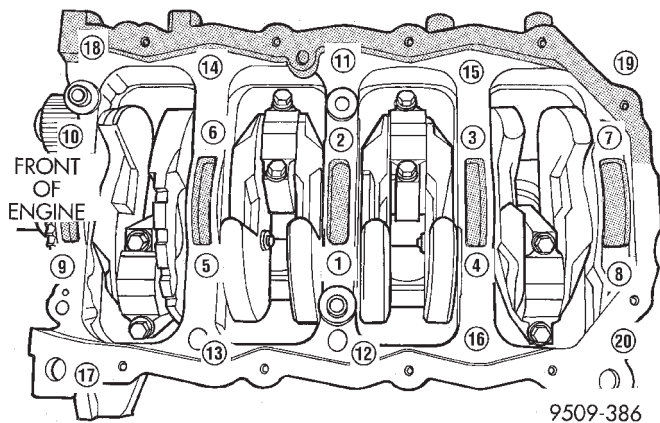

Fig. 76 Main Bearing Caps/Bedplate Torque Sequence
ft. lbs.) in sequence, then in sequence tighten bolts an additional 1/4 turn (Fig. 76).
(9) Install main bearing bedplate to engine block bolts (11 thru 20), and torque each bolt to 28 N·m (20 ft. lbs.) in sequence shown in (Fig. 76).
(10) After the main bearing bedplate is installed, check the crankshaft turning torque. The turning torque should not exceed 5.6 N·m (50 in. lbs.).